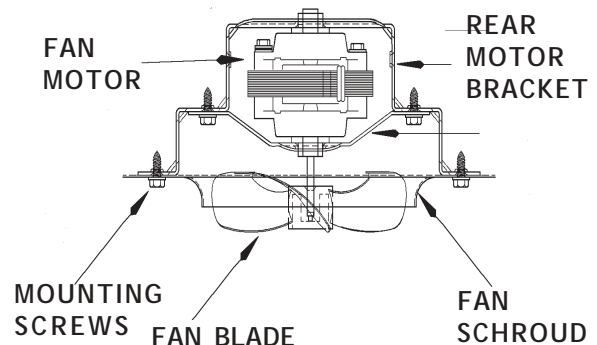

Figure 2-9
- Disconnect the fan motor leads. The wires are self-locking and it is important to squeeze the clip before pulling the leads off the terminals. (See Figure 2-9)